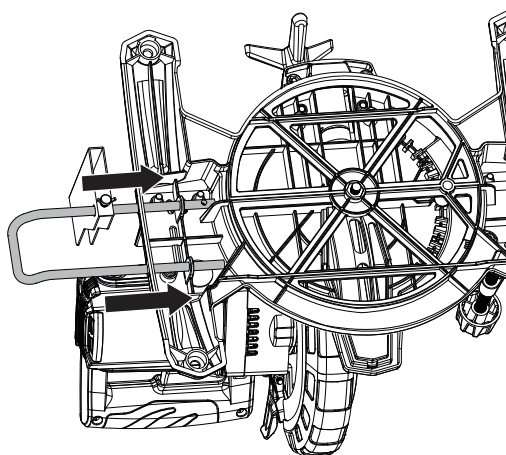

Figure 7
- 5) Invert the mitre saw for better visibility. Align and insert the 2 ends of the extension bar into the 2 holes at the edge of the base plate. (See Fig. 7)